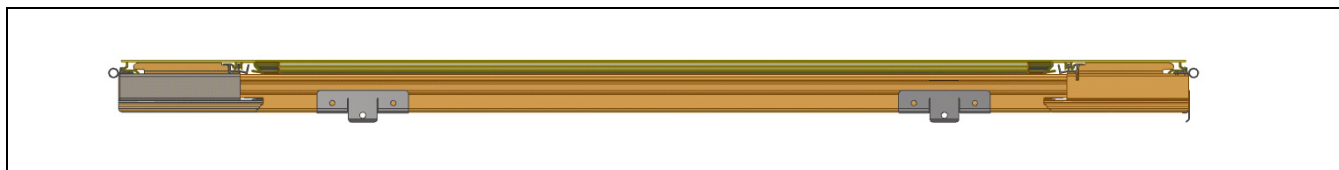

Figure 3
2. Outswing brackets along a top rail. See Figure 3.